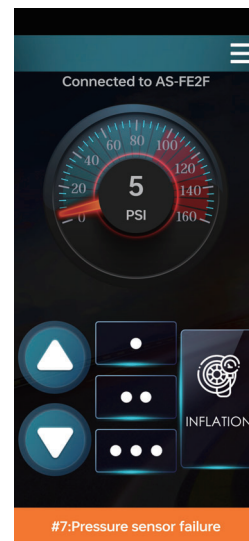

Fig. III.6.2
2) When a new fault occurs, a fault prompt will be displayed at the bottom of the main interface. Click it to enter the TROUBLESHOOT interface directly, as shown in Fig.III.6.2